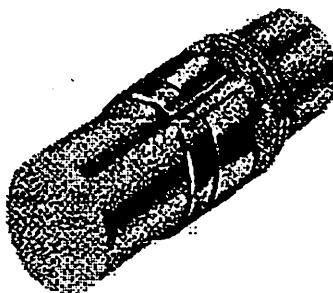

Fig. 2. Adapter Sleeve
**Step #3. (Fig. 2) Adapter Sleeve — Clean Bore & O. Dia.** Position adapter sleeve on shaft, threads outboard as indicated, to approximate location with respect to required bearing centerline. Micronized or powdered (not flaked) graphite or light oil applied to the sleeve outside diameter surface, results in easier bearing mounting and removal.
### Step #3. (Fig. 2) Adapter Sleeve — Clean Bore & O. Dia.